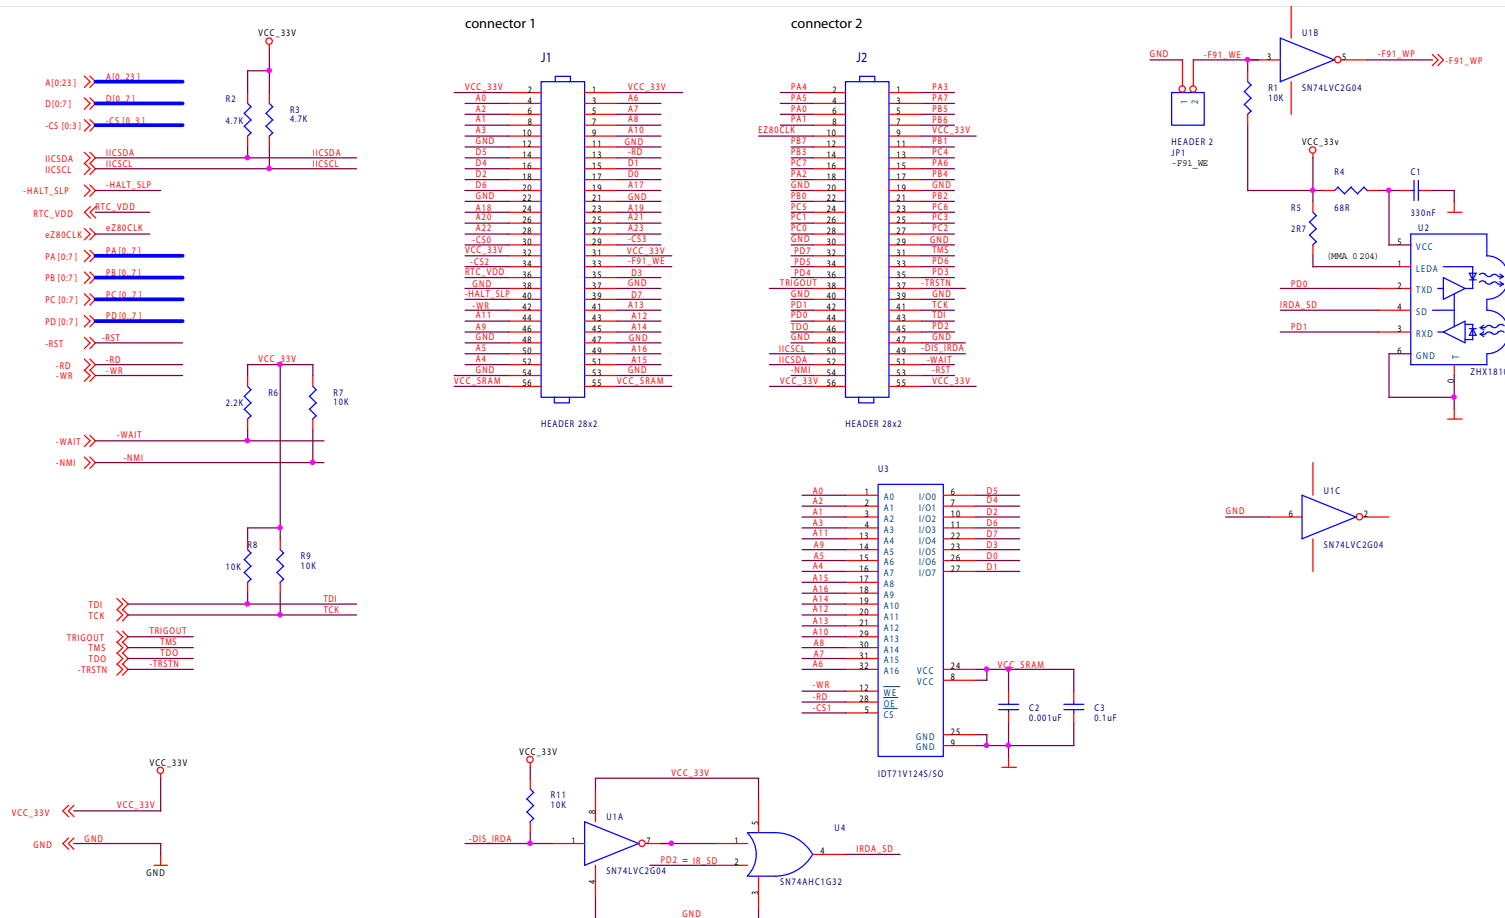
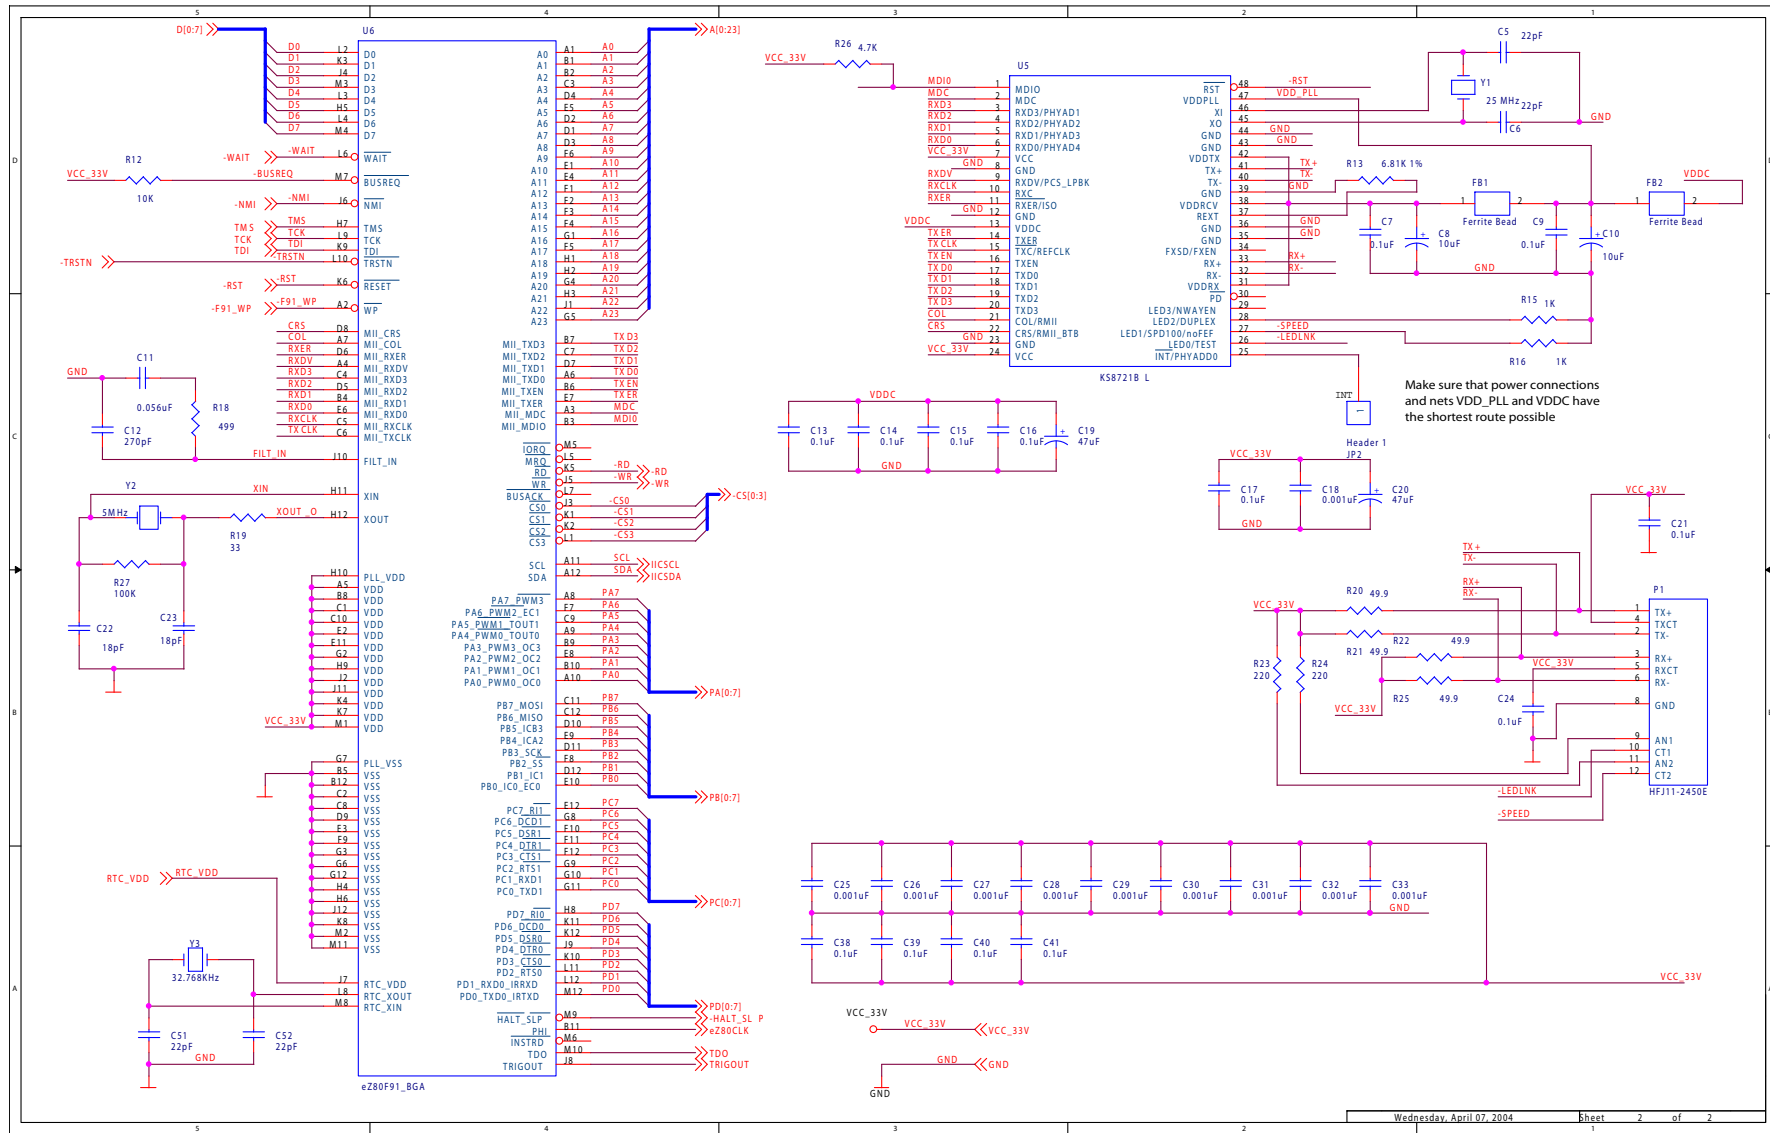

Figure 5. eZ80F91 Mini Enet Module for eZ80AcclaimPlus!™ Schematic Diagram, #1 of 2—Connectors and Miscellaneous
Figure 6. eZ80F91 Mini Enet Module for the eZ80AcclaimPlus!™ Schematic Diagram, #2 of 2—CPU and PHY
1. For the sake of simplicity in describing the interface, Power and Ground nets are omitted from this table. The entire interface is represented in the eZ80F91 Mini Enet Module schematics (see Figure 5 on page 14 and Figure 6 on page 15).
Figure 5 and Figure 6 display the layout of the eZ80F91 Mini Enet Module for eZ80AcclaimPlus!. IrDA circuitry devices are not installed on the eZ80F91 Mini Enet Module for eZ80AcclaimPlus!. However, these devices appear in the following schematics for reference purposes. Please see “IrDA Transceiver” on page 11 for additional information.